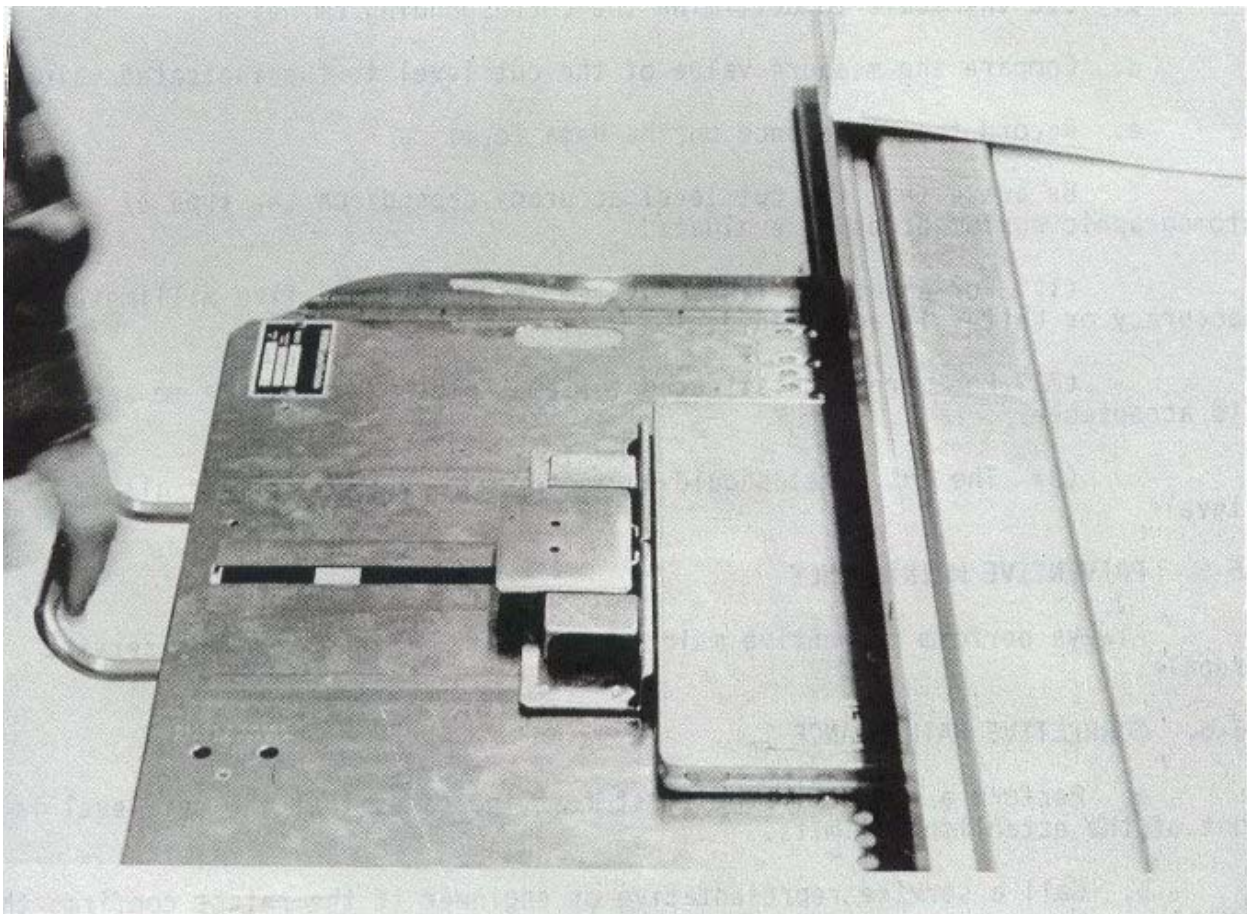

Figure 6-2. Placing the cassette in the Bucky tray.
(1) You want a 15-centimeter (cm) scale aligned with the central ray.
(2) For even density, position the Plexiglas attenuators on both sides of the test tool.
e. Place the 10- x 12-inch cassette lengthwise in the Bucky tray and lock the Bucky tray (see figure 6-2).